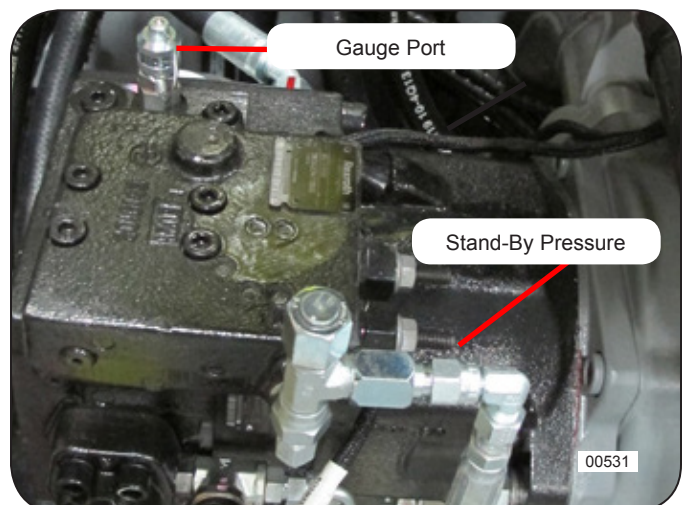

Figure 7: Stand-by Pressure Gauge Installation (Typical)
3. Install the gauge at the disc saw pump pressure output block See Figure 7.
9. Locate the stand-by pressure adjustment setscrew on the disc saw pump compensator. See Figure 7.
Tighten the jamnut to lock in the adjustment. See Figure 7.
8. Read the pressure gauge mounted in the cab on the front left dash panel. See Figure 7. The disc saw POR pressure should be set at 3800 psig (262 bar). If the disc saw POR pressure setting is correct, go to step #12. If